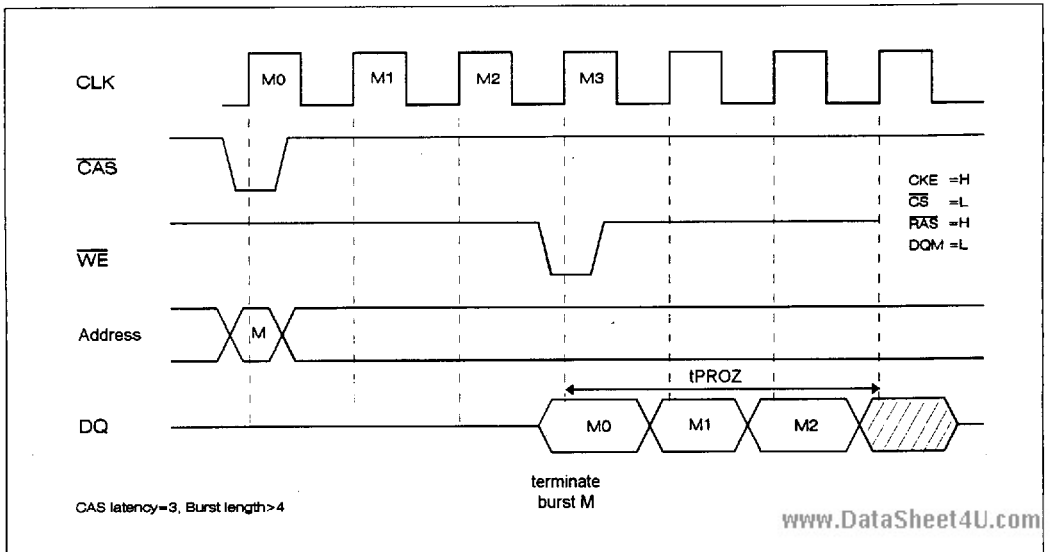

Figure 8. Timing of burst terminate command with read burst in progress.
4. Issue a terminate burst command and return to the row active state. The timing and control for this sequence is shown in Figure 8 for the case where \overline{CAS} latency is three and burst length is greater than four. Note that in this example the terminate burst command occurs on the third clock cycle after the initial read command. Currently, the SDRAM is defined such that the terminate burst command initiates the burst terminate cycle (M3 in Figure 8) is output to DQ after the number of clock cycles defined by the clock latency. On the next clock cycle, DQ goes to Hi-Z and the bank goes to the row active state. This last bit read out upon a terminate burst cycle is the subject of some controversy and needs clarification from customers whether or not the data stream should end one cycle earlier.